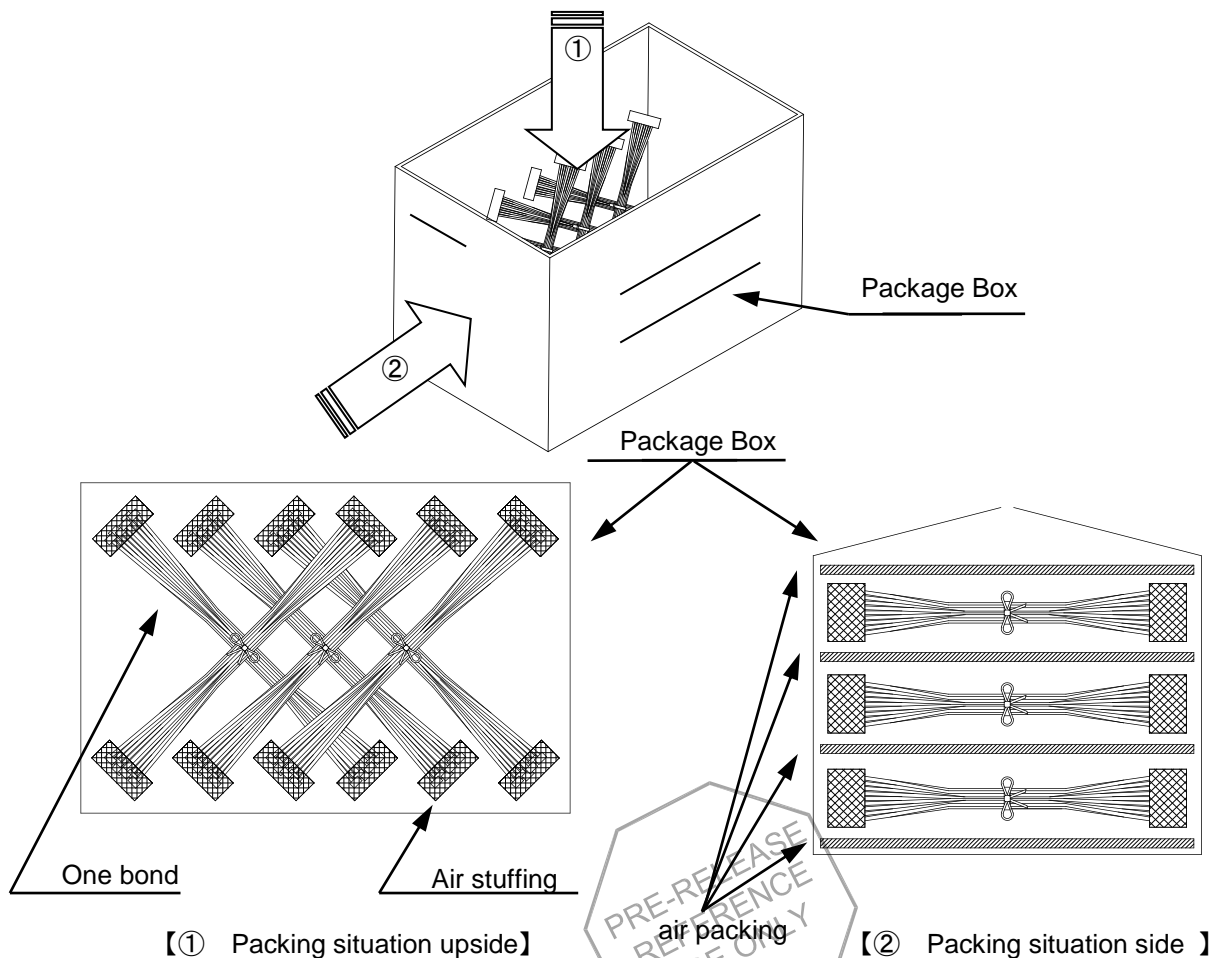

Fig.7-2 Packaging situation
Below figure(Fig 7-2) is one of examples recommended reference. Please take measure not to add force to connector for long time by stacking if you pack with another packing method for long harness.
※When packing bundle of harness after processing in package box, please follow suggested packaging order and avoid applying excessive weight or force to harnesses. (cross shape) (Fig.7-2 ①)
※Please lay air packing etc. on package box underside. In order that force by piling package boxes etc. is not added to connector for long time, please lay air packing etc. (Fig.7-2 ②)